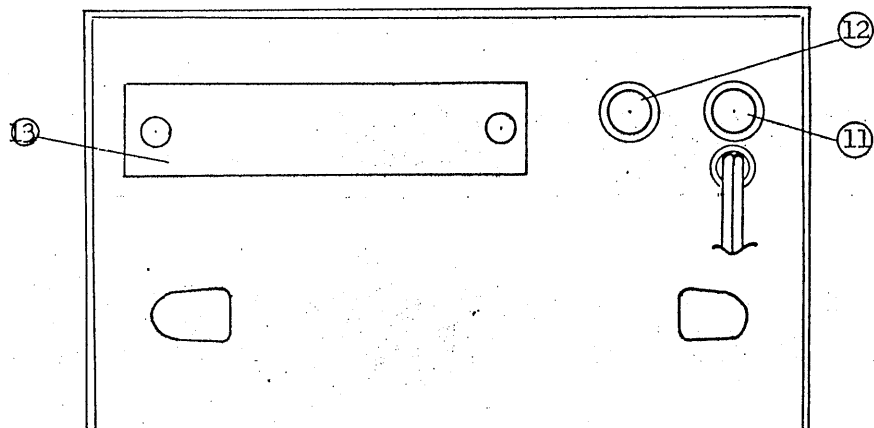

Fig. 2 Rear Panel
3.2 Explanation of Rear Panel (See Fig. 2.)
- (11) Input fuse Inserted in the primary of the power transformer to avoid possible subsequent faults during a Model PAC 55-2 trouble.